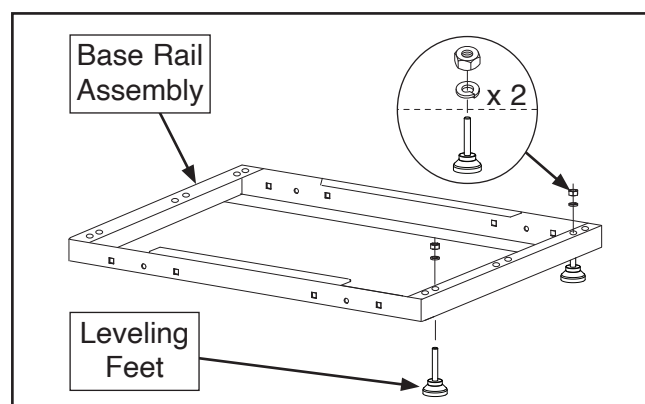

Figure 6. Installing leveling feet.
5. Mount (2) leveling feet to base rail assembly with (2) M8-1.25 hex nuts and (2) 8mm lock washers (see **Figure 6**).